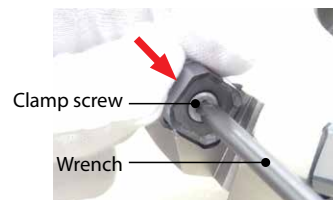

Fig.1
3. After mounting a clamp screw on the top edge of wrench, tighten the screw while keeping the insert pushed against the shim seat surface and holder surface (Fig.1).